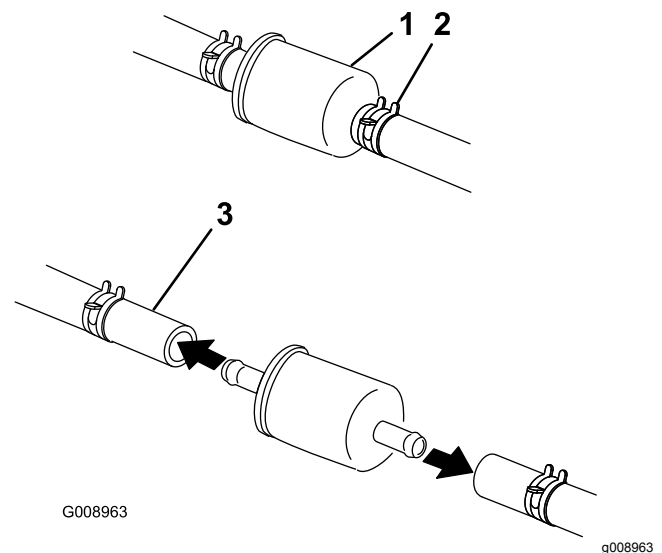

Figure 46
5. Close the fuel-shutoff valve under the seat (Figure 46).
6. Squeeze the ends of the hose clamps together and slide them away from the filter (Figure 46).
8. Install a new filter and move the hose clamps close to the filter (Figure 46).